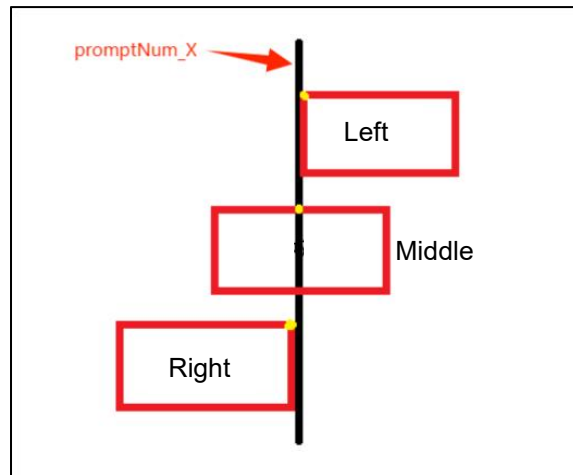

Figure 6-10: Prompt Number Alignment
- alignment** : Alignment mode (only for the horizontal direction) for the prompt number. Options include Left, Middle, and Right. The left-top X coordinate (promptNum_X) of the prompt number is used as the base line. As shown in Figure 6-10: